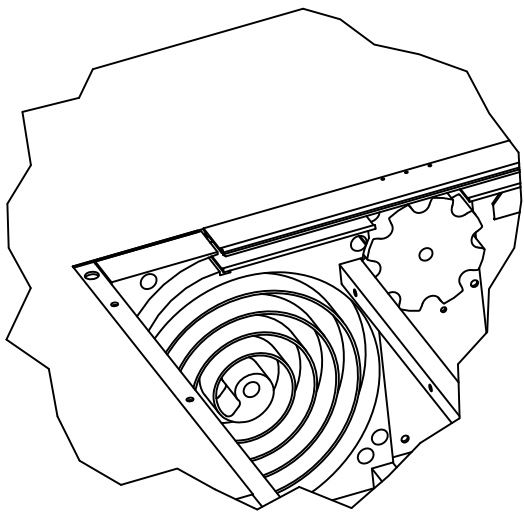
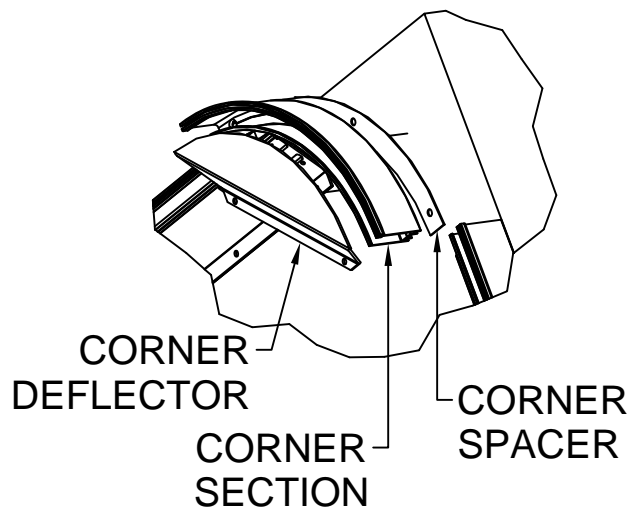

Figure 3 – Track / Spiral Interface
Figure 4 – Corner Pieces
- a) Clamp ALL track sections in place. Horizontal tracks fit snug against spiral plate see Figure 3. Install corner spacers behind optional corner sections if required; Figure 4.